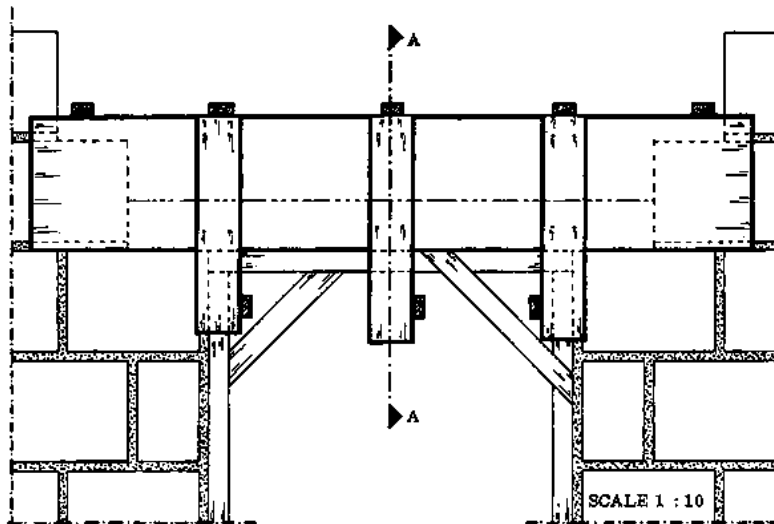

Fig. 1
- CONSTRUCTION: The construction of the formwork is shown in Fig. 1, page 167 of the Basic Knowledge book. This illustrates a situation where the frame will be set later or where there is an opening without a frame.
Since in most cases the frames are set already, the formwork does not require special strutting (Fig. 1). The head of the frame then acts as part of the soffit of the shuttering. The side boards must be fixed so that the vertical sides of the concrete lintel will be flush to the surface of the blockwork (Fig. 2).